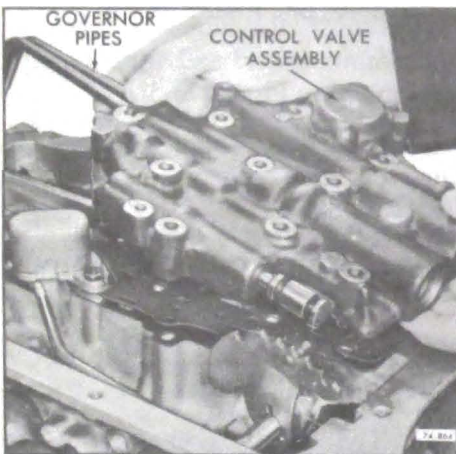

Figure 76-514
2. Remove valve body assembly and governor pipes. See Figure 76-514.